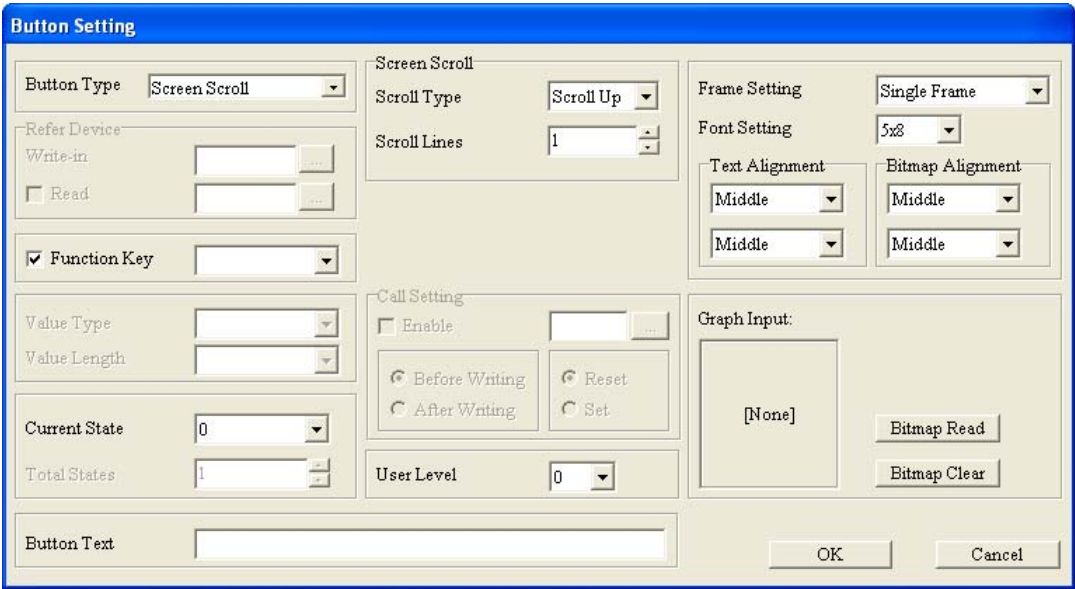

Figure 4-76 **Button Setting** window
- If **Screen Scroll** is selected, the **Button Setting** window will be as shown in Figure 4-76.